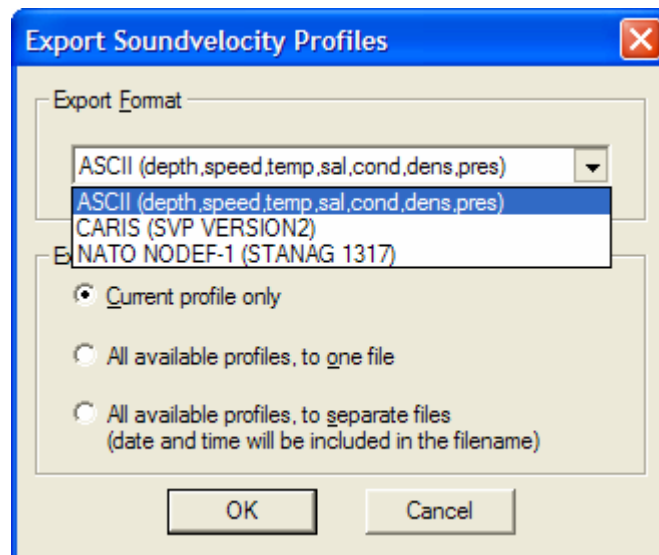

Figure 88: export sound velocity profiles
- STEP 6)** The loaded profile can be exported in three different formats. See Figure 88